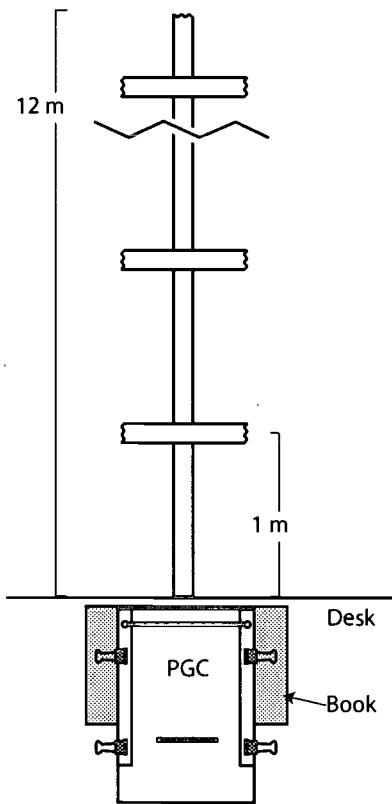

Figure 3
- G. Have students use masking tape to mark the launching point for each team. From the launching point, have students put down a piece of masking tape 12 meters long. Have students measure and mark the tape at 1-meter intervals. See Figure 3.